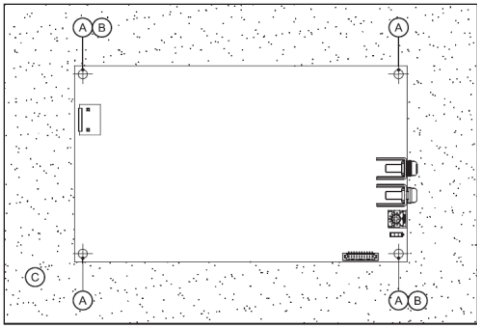
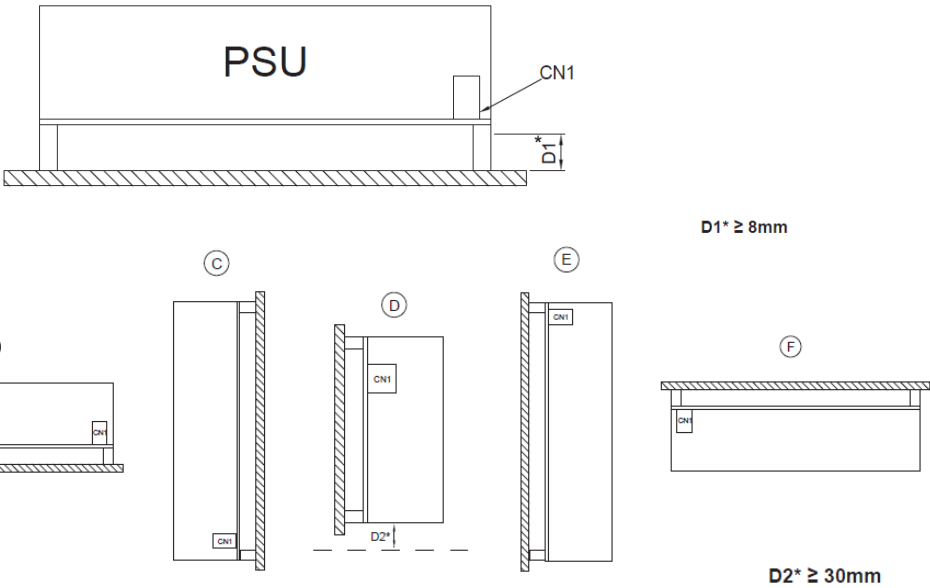

Fig. 2 Installation of the Device
Fig. 3 Assembly Reference
- Please insert an insulation sheet between the system and product, if the safety distance is < 8mm (0.31 inch) for D1 (Refer to Fig. 3 Assembly Reference)
- For (A), (D) orientations, ensure sufficient convection cooling, always maintain a distance of $\geq 30\text{mm}$ (1.18 inch) for D2 below the device while the device is in operation.
- For Protection against shock to Class I with PE (protection earth) and Class II with or without FG (functional ground) product, the two mounting holes (marked (B) in Fig. 2) need to be connected together to the system's protective earth or functional ground. Pollution degree and EMC performance with different connections please refer to environment and EMC section.